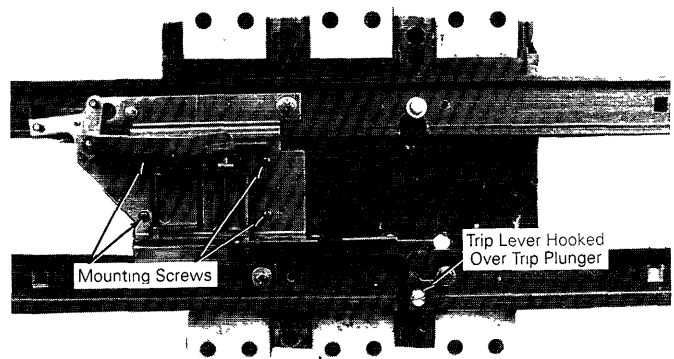

Figure 6. Interlock mechanism attached to the breaker.
6. Install the interlock mechanism, as shown in Figure 6, hooking the trip lever over the slot in the trip plunger. The hole in the underside of the mechanism must line up with the interlock plunger. Attach with four #10-32 Philips-head screws and tighten to 15 in-lb.